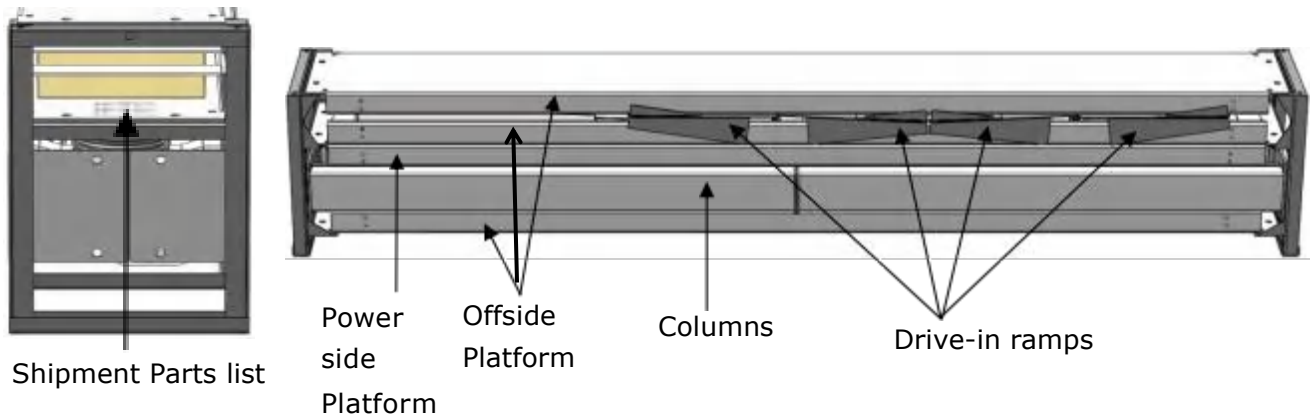

Fig. 9
2. Move the lift aside with a fork lift or hoist, open the package and check the parts according the shipment list. . (See Fig. 9)